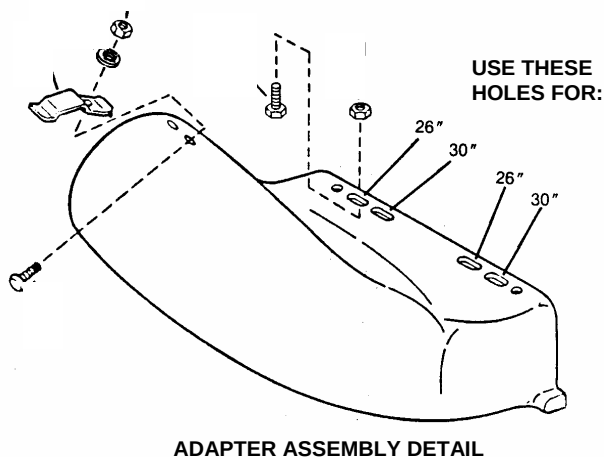

FIGURE 6
2. **ADAPTER TUBE LATCH:** Assemble the tube/chute latch (item 10) with the hardware in the sequence indicated in Figure 6.